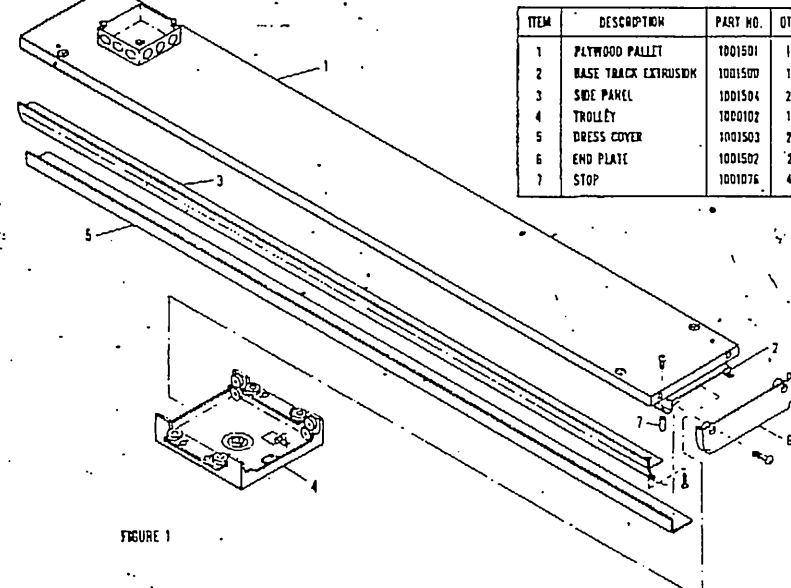
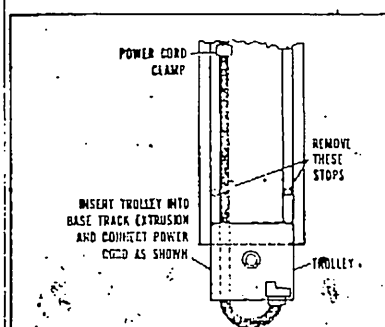

FIGURE 1. DISASSEMBLY OF TRACK ASSEMBLY BEFORE INSTALLATION
FIGURE 4. RAISING TROLLEY AND CONNECTING POWER CORD
The Track Assembly is shipped fully assembled and must be disassembled prior to installation. Disassemble Track Assembly in accordance with Figure 1.
NOTE: It is not necessary to remove Base Track Extension (Item 2, Figure 1) from Plywood Pallet (Item 1, Figure 1). It is not necessary to disassemble Tray (Item 4, Figure 1).
- Install two Dry Covers (Item 5, Figure 1) with three set screws.
- Insert Tray (Item 4, Figure 1) into track of Base Track Extension with power back-up as shown in Figure 4.
- Replace and tighten Stops (Item 7, Figure 1).
- Install Side Panel (Item 3, Figure 1) with screws provided.
- Attach End Plate (Item 6, Figure 1) with screws provided.